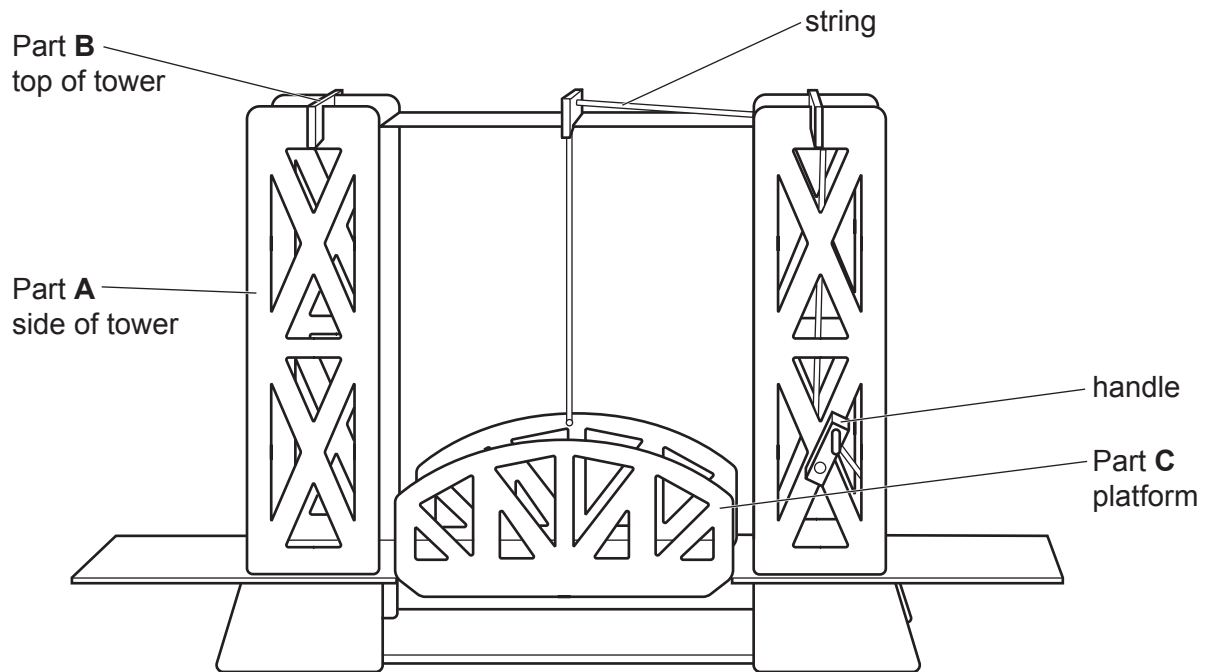

Fig. 3.1
- 3 Fig. 3.1 gives details of a plywood model bridge which is to be made in a school workshop.